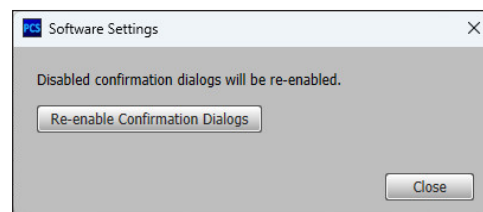

Figure 31. Software Settings Dialog Box
2. Click the **Re-enable Confirmation Dialogs** button (see figure 31). The dialog box closes and the reset is complete.